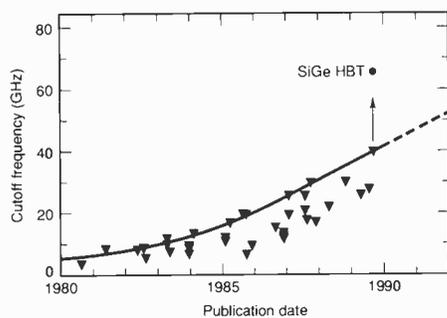

Fig. 1. Trends in cut off frequency. SiGe is a huge leap in speed over the fastest Si transistors reported.
To give an idea of just how radical this leap in performance is Fig. 1 is a graph of the fastest Si transistors reported anywhere; and shows how much faster SiGe is.
Between 1 and 200MHz, AT-cut crystals are normally chosen. They represent the best compromise between temperature stability and frequency accuracy and frequency pulling capability. Above around 27MHz however, AT crystals are normally only available for use in overtone mode. This is restrictive since overtone oscillators are more difficult to design and are prone to spurious responses. Fig. 1.
*Fig. 1. Operating a crystal at an overtone of its fundamental is tricky. The oscillator circuit needs to be carefully designed to make sure that the spurious response points have no influence on the final output signal.*